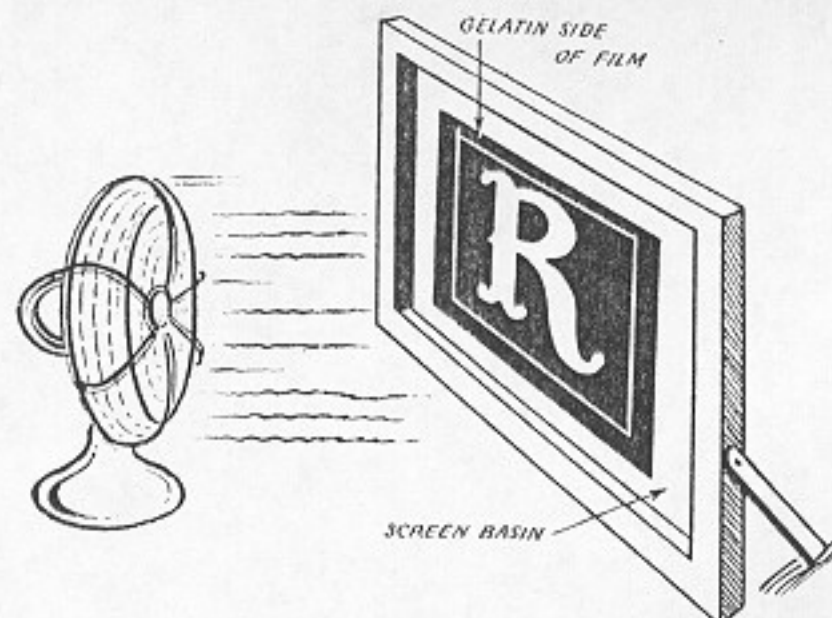

Fig. 146. Dry the Film
13. Unhinge the screen and prop it in a vertical position in front of an electric fan, Fig. 146. Direct the flow of air from the fan against the screen for